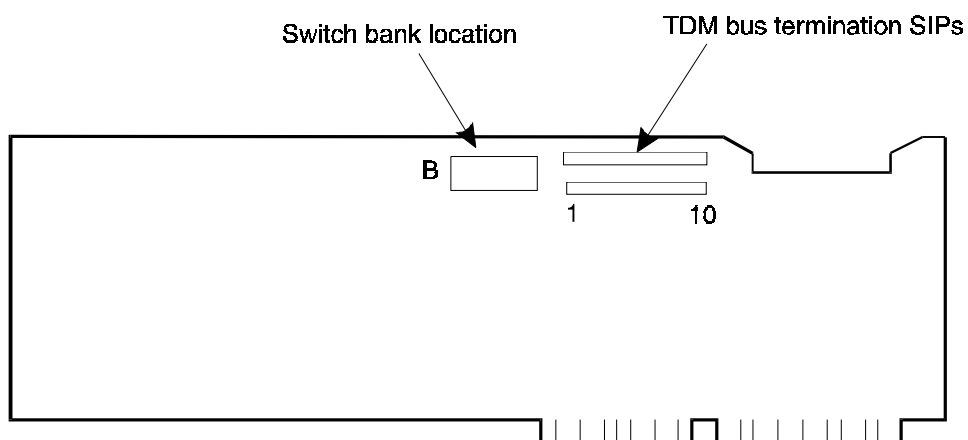

Figure D-43. IVP6 (AYC5B), IVP4 (AYC6B) T/R Card Switch Bank Locations
- IPV6 (AYC5B) (see Figure D-43)
- IVP4 (AYC6B) (see Figure D-43)